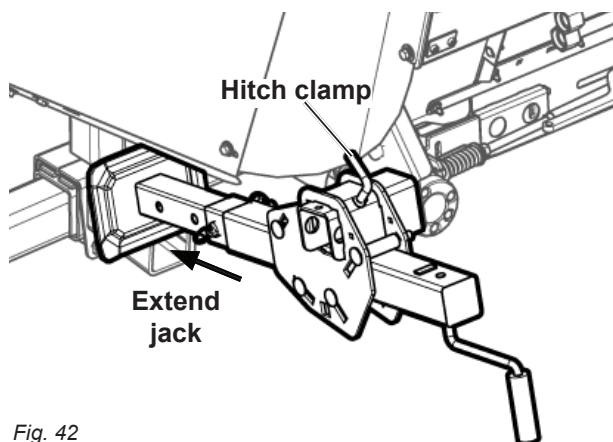

Fig. 42
3. Release the hitch clamp, remove the chain and slide the jack off the hitch tube. Store the jack as shown in Fig. 42, and tighten the clamp.